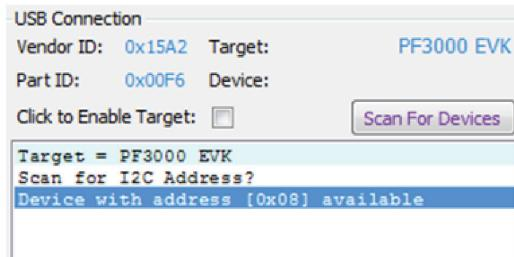

Figure 9. Confirmation of Available Device
4. In the PF3000 GUI or PF3001 GUI window, click on the "Scan For Devices" button in the top-left portion. A confirmation message that a valid device is available is logged (see Figure 9).